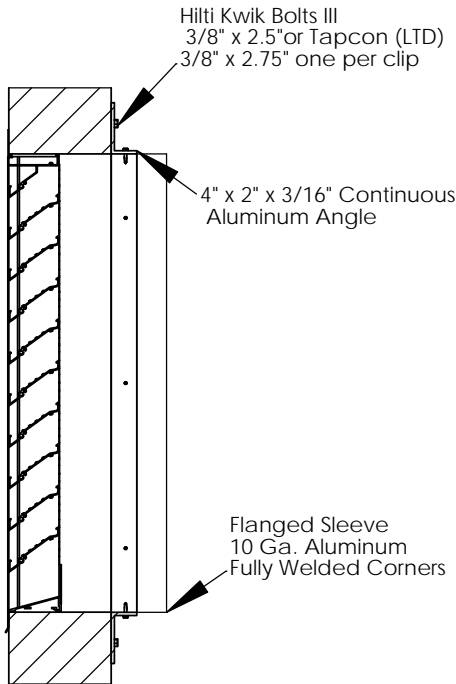

Fig. 3 - DC-436-3
1. **Anchoring into Concrete or Masonry:** See **Fig. 3** Model **DC-436-3** for detailed instructions.